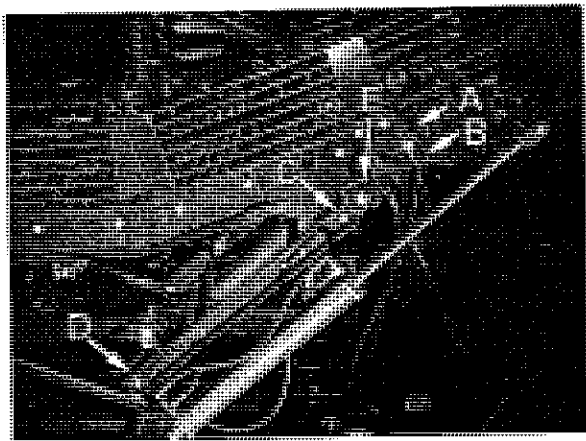
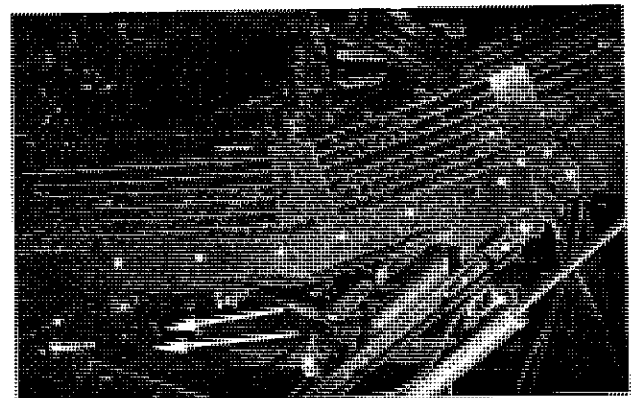

Figure 55. Adjusting the Truck Elevator Height and Boom Stop
Figure 56. In-Out Adjustment of Truck Elevator; Arrows Show Two of Six U-bolts.
Setting Boom Height - To adjust the height of the truck elevator boom, raise the boom to the operating position. Install 1" bolts (Figure 55-B) just below the pivot point (A) to secure the boom. Loosen bolts C and remove bolts D on the channels that support the elevator. Operate the cylinders to assist removal of the lower bolts (D) and for positioning the bolts to a different setting. Replace and tighten all bolts and be sure to remove the lower 1-inch bolts (B) before folding the elevator.
Setting Boom Stops- Boom stops (Figure 55-E) MUST be set to prevent the boom from contacting the harvester frame when the boom is lowered. The boom stops are plates that can be installed in several positions. To set the stops, first remove them and then use the cylinders to lower the boom to the down position. Do *not* let the boom contact the frame. Then install the stops in the position that will prevent the boom from contacting the harvester when lowered fully.
To adjust the settings, raise the truck boom and install 1" bolts (Figure 55-B) just below the pivot point (A) to secure the boom. Remove the grate(s) from the truck elevator at the point where the tank elevator dumps into it. Attach suitable hoists to support the elevator. Loosen hose bindings at the points where additional length will be required. Remove the six (6) U-bolts that are holding the lower 4"x4" square tubes to the tank frame. The arrows in Figure 56 show 2 of the 6 U-bolts). Slide the elevator and support assembly to the new position. Install the U-bolts that secure the 4"x4" tubes to the frame. Install any grates that were removed. Secure the hoses. Tighten all loosened bolts and remove the lower 1" bolts (B) before folding the elevator.
C. - Hitch Components - Lubricate the swivel pins for the steering cylinder, tongue pivots, and hitch bolt as shown in Figure 56.